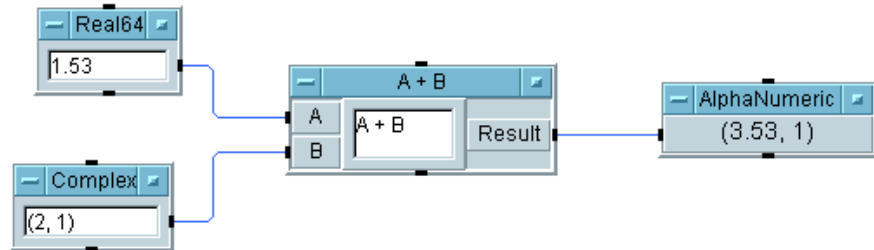

Figure 2-15. Using Data Types
5. Add an AlphaNumeric object by selecting Display $\Rightarrow$ AlphaNumeric. Connect the objects as shown in Figure 2-15. Type in
the value 1.53 in the data entry field of the Real64 Constant object and the complex value (2, 1) in the Complex object. Run the program and you should get the result shown in Figure 2-15.